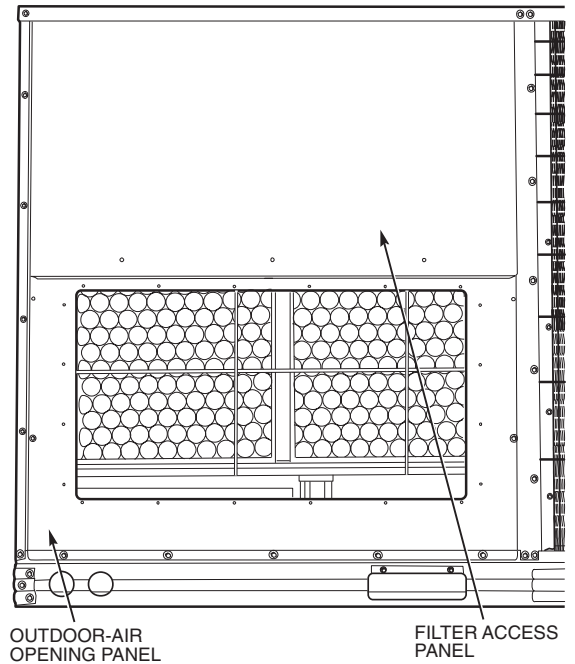

Fig. 29 — Typical Access Panel Locations
1. To remove the existing unit filter access panel, raise the panel and swing the bottom outward. The panel is now disengaged from the track and can be removed. Remove the indoor coil access panel and discard. See Fig. 29.